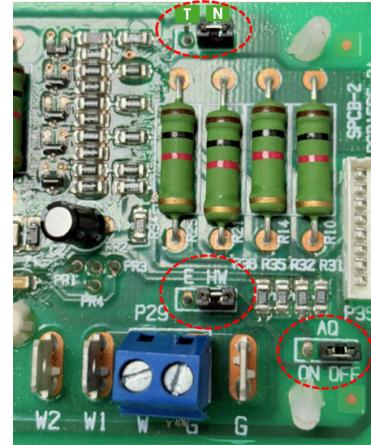

Fig 7.3
Fig. 7.3 provides a schematic of the control board present in the unit. The unit ships from the factory with the aquastat jumper (AQ) in the OFF position (right two pins) and the heating selector in the HW position (right two pins). If an aquastat (AQ) is used in the application, the jumper should be changed to the ON position (left two pins). Terminals T and N located on the top right side of the board are not intended for field use and should be left disconnected.